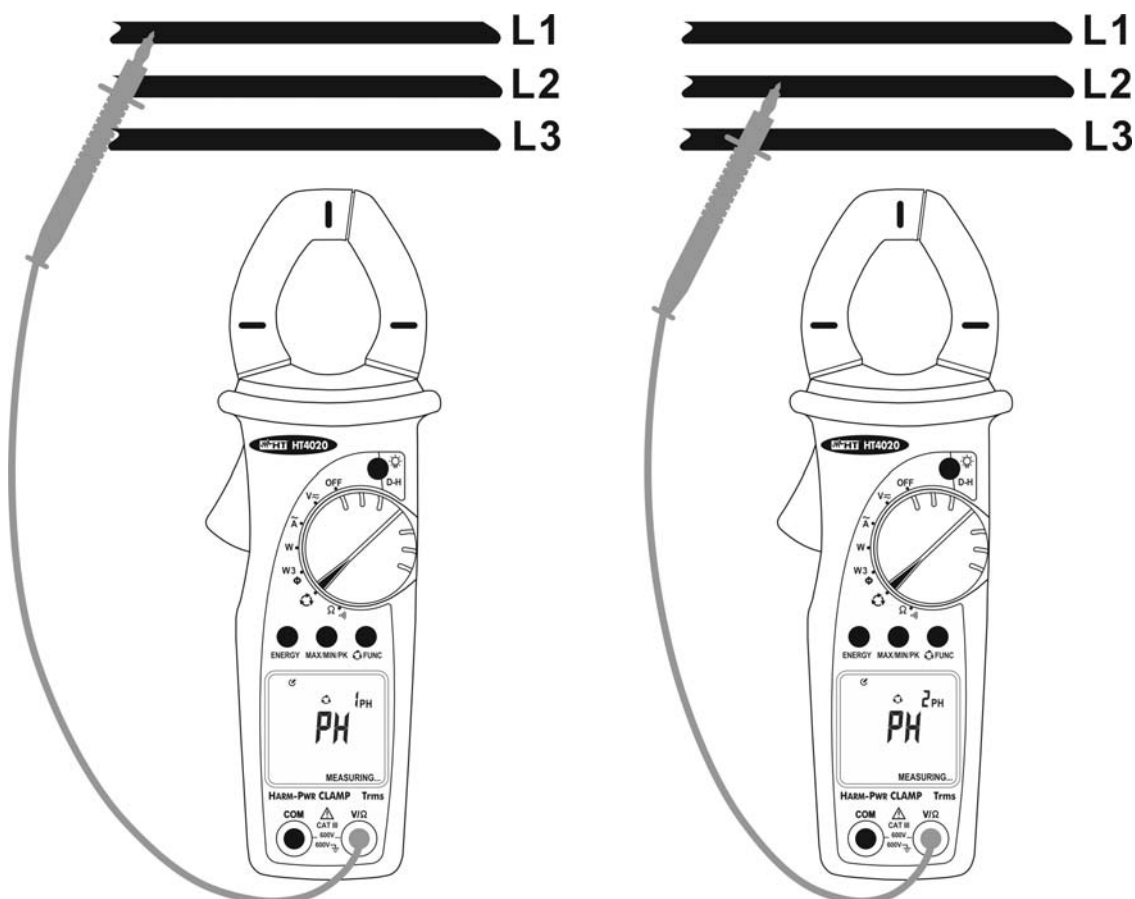

Fig. 13: Use of instrument for phase sequence indication with 1 wire
3. Connect the red terminal to the L1 phase conductor (see Fig. 13 – left part). If necessary use the rubber test lead holster and insert the red test lead
5. After about one second “MEASURING” appears on the display indicating that the instrument is ready to execute the first measurement (see Fig. 13 – left part)
8. Connect the test lead to the L2 phase conductor (see Fig. 13 – right part)